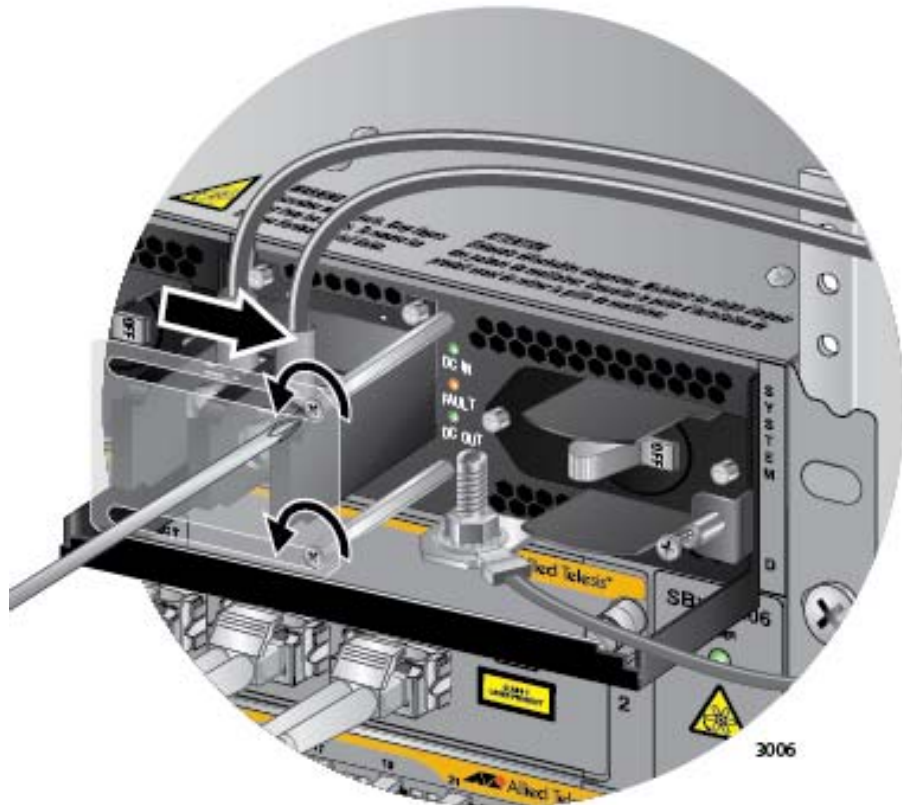

Figure 162. Opening the Plastic Window on the Terminal Block
4. Use a #1 screwdriver to loosen the two screws that secure the plastic cover over the terminal block and slide the cover to the right. You may need to slightly lift the locking handle to access the bottom screw. Refer to Figure 162.